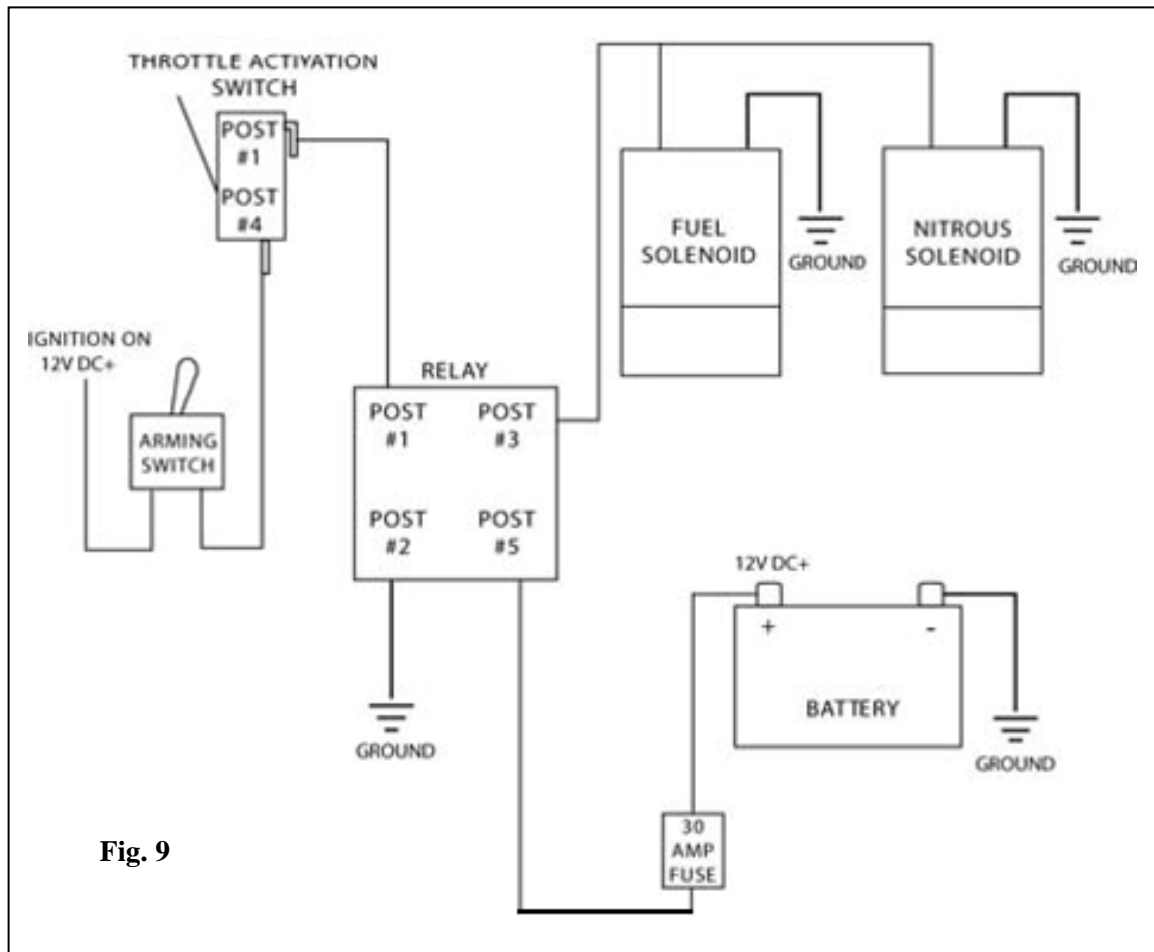

Fig. 9
- D. Using the supplied electrical connectors and wire, refer to the wiring diagram for proper routing and electrical connections for the nitrous system (see Fig. 9). Always use the